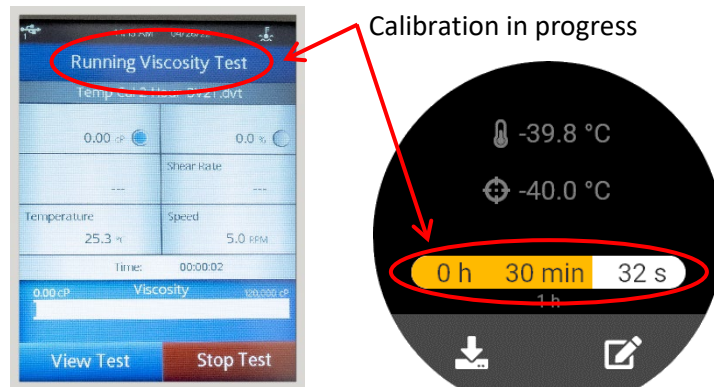

Figure 15: Calibration in Progress
- Screens will indicate the calibration is in progress on both the Head Unit and Base Unit. See Figure 15.